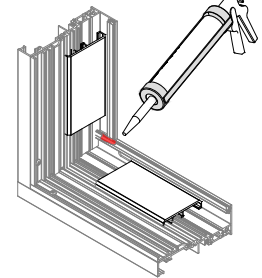

FIG. 6
- Before setting vent into the opening, apply a dab of sealant to the exterior bulb gasket at each corner joint. **See FIG. 6**